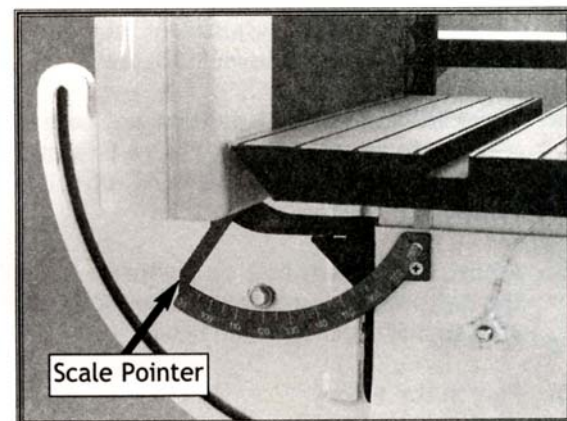

Figure 10. Scale pointer at 90°.
5. Adjust the scale pointer so it indicates 90° (**Figure 10**).